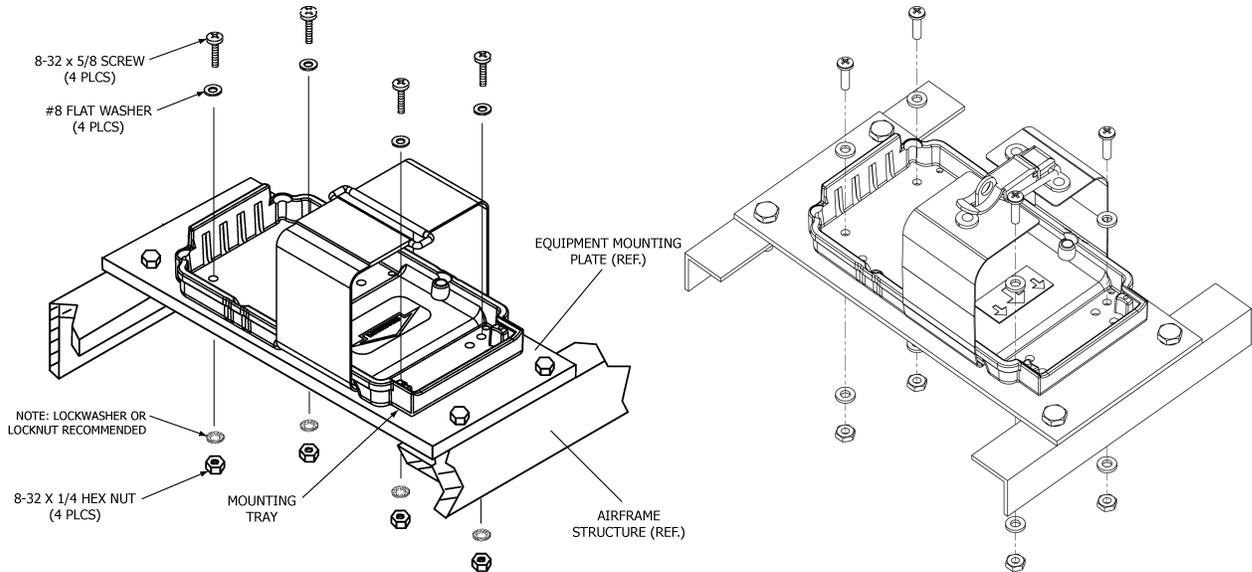

Figure 15 Typical Mounting Tray Installation
- 1) See Figure 15 Typical Mounting Tray Installation.
- 6) Install the mounting tray with the hardware supplied in the installation kit (455-7423), as shown in Figure 15 Typical Mounting Tray Installation on page 47.